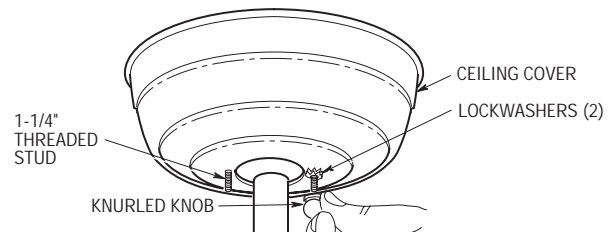

Figure 30
- Lift the ceiling cover up to the threaded studs and turn until studs protrude through the holes in the ceiling cover (Figure 30).
- Secure the ceiling cover in place by sliding lockwashers over the threaded studs and installing the two knurled knobs (supplied). (Figure 30.) Tighten the knurled knobs securely until the ceiling cover fits snugly against the ceiling and the hole in the ceiling cover is clear of the pipe.